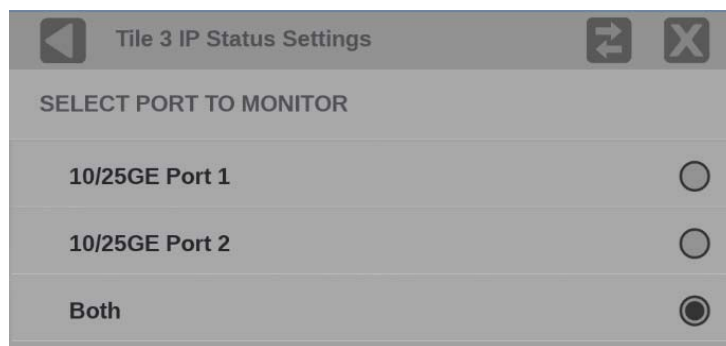

Figure 139: IP Status port settings
2. Open the IP Status settings menu; select and hold in the tile and select the  icon. (See Figure 139.)